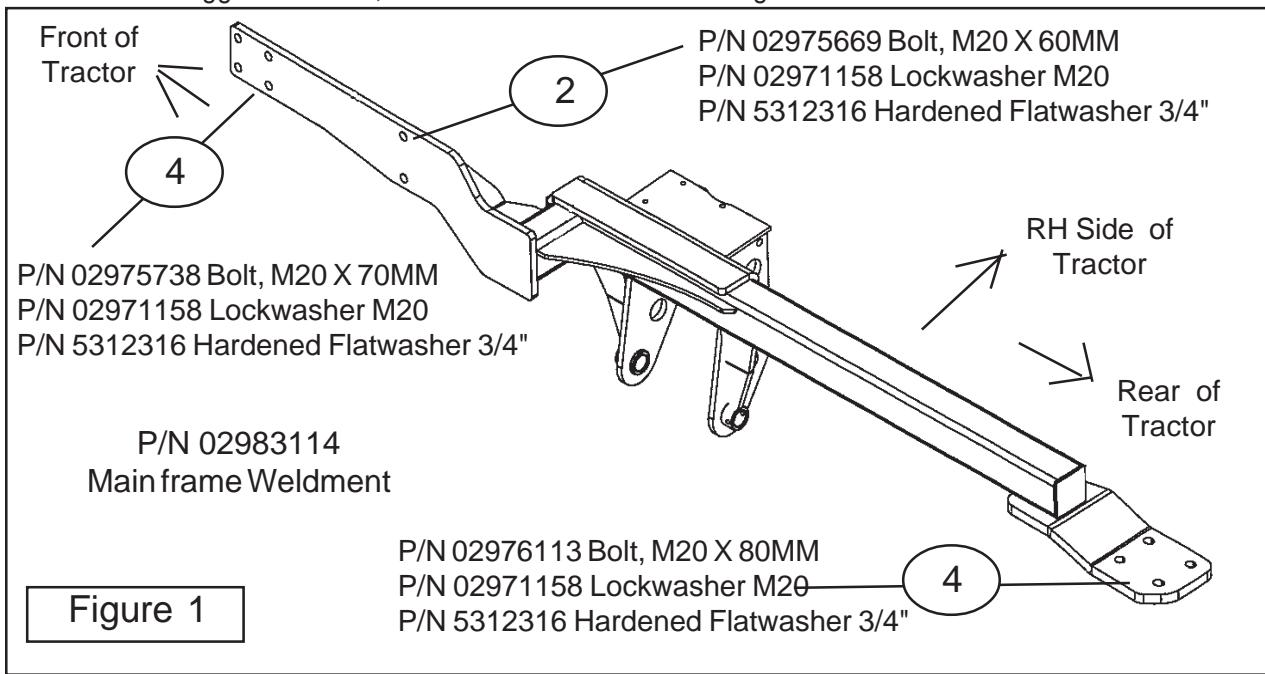

Figure 1
1. The RH Frame weldment will bolt to the rear axle and the front right hand side of the front of the tractor. use bolts, flatwashers & lockwashers furnished (See Figure 1) in bolt bag. Secure Tractor so that it cannot be started unless you want it started. DO NOT Mount any Brackets or components until instructed to do so. There are some components that will interfere with mounting others if mounted to soon. The RH frame and LH frame support must be mounted under the tank rails as they are retained with the same bolts. The front 4 bolts of frame rail should be left loose until the frail rails are installed later. Back from the front 4 bolts there are two bolts that can be snugged for now, remember these must be tighten later.